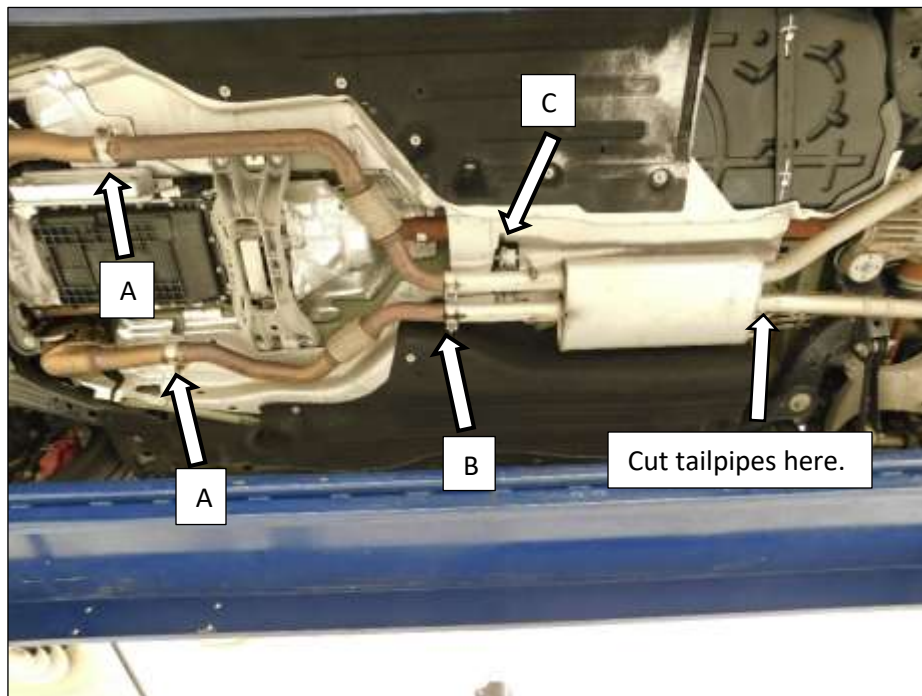

Figure 1
NOTE: Cutting the factory tailpipes just after the center resonator will simplify the removal of the factory exhaust **Fig.1**, but is not necessary. Have a second or third person available to help with removing the exhaust, if cutting the pipes is not an option. The muffler and tailpipe assembly is one large piece and can be difficult to handle.
*Apply Penetrating oil to the (x2) 15mm nuts at the mid pipe clamps **(A)**, (x2) 15mm nuts at the muffler clamps **(B)**, center resonator rubber isolators, **(C)** **Fig.1** and each rubber hanger on the tailpipes.